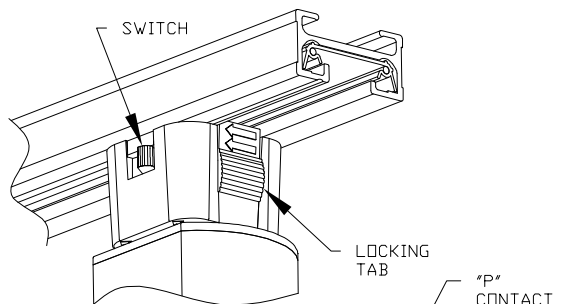

FIG. 2
3. Rotate ADAPTER clockwise 90° until LOCKING TAB snaps into track. FIG. 2.